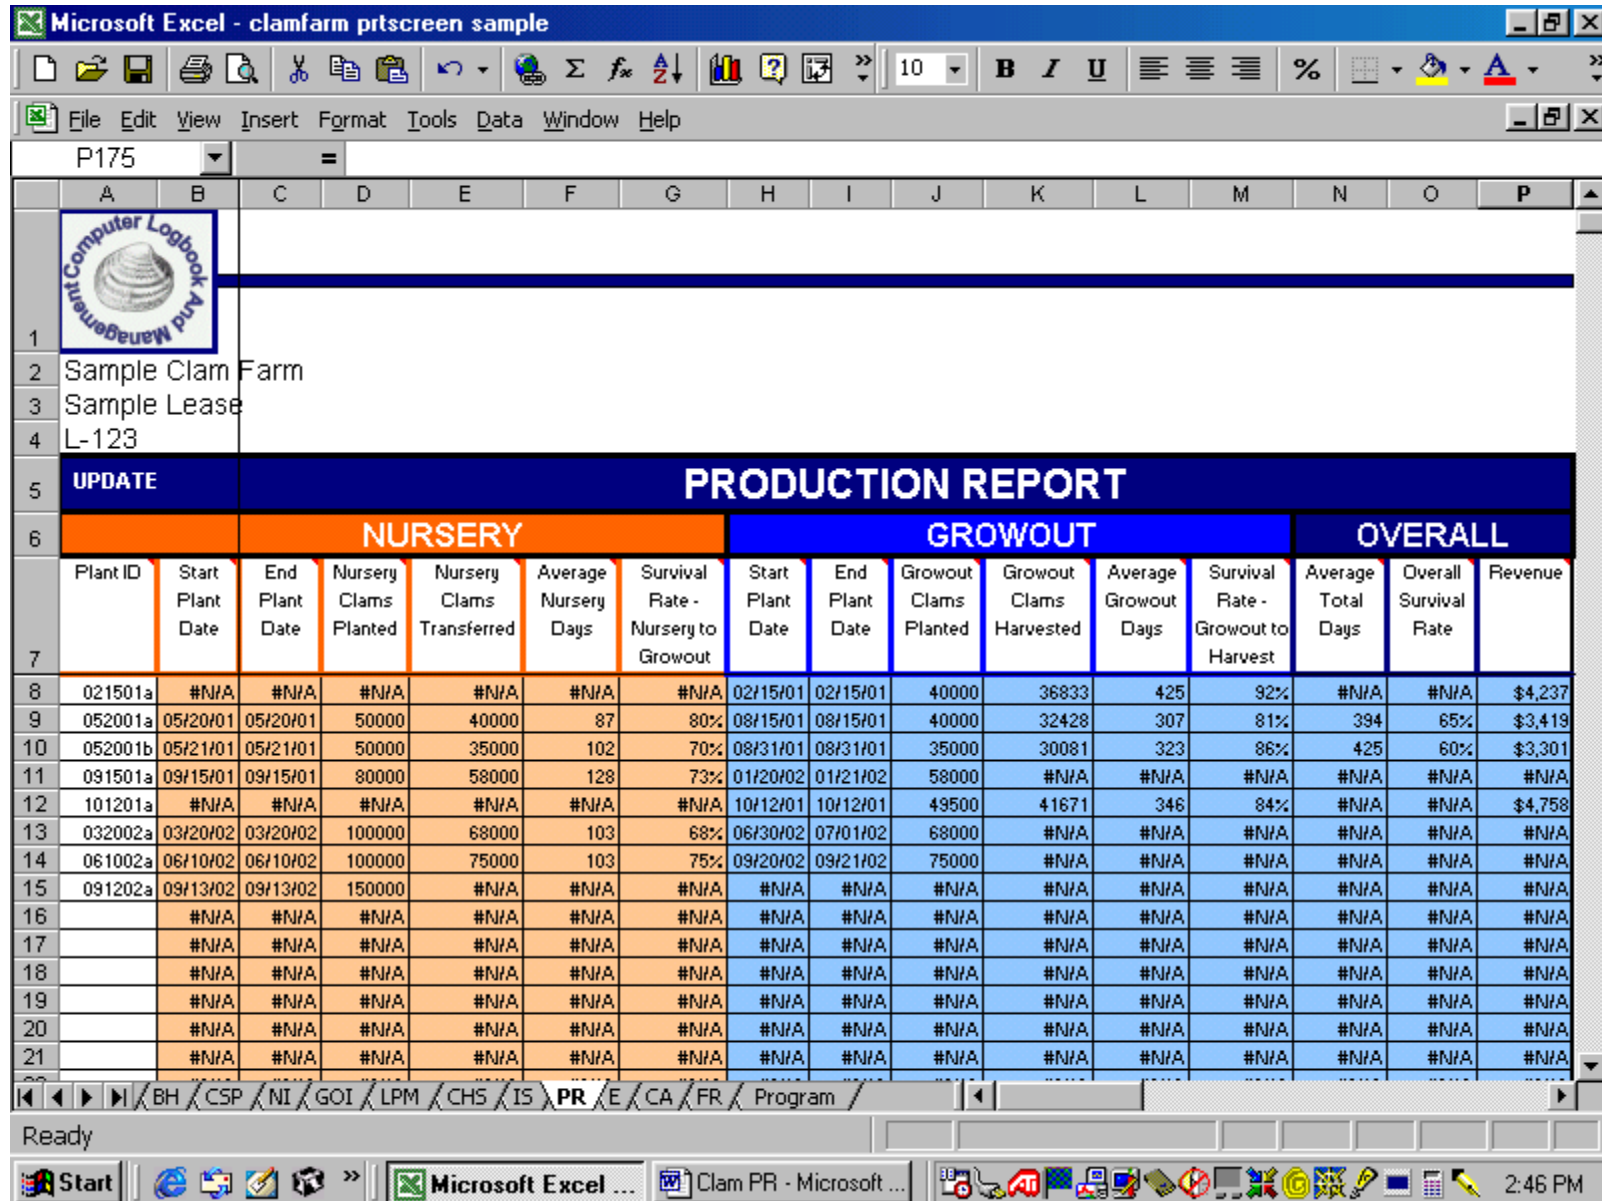

Figure 11.
**This module provides a summary for the user of all nursery and growout production on the lease parcel. (see Figure 11)**